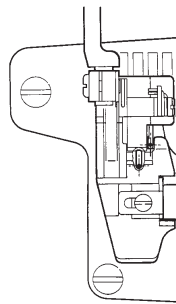

Fig.1
- Before starting the machine, make sure that the presser foot is positioned correctly (turn the machine pulley slowly by hand to see if the needle point is centered in the needle drop hole on the presser foot). (Fig. 1)